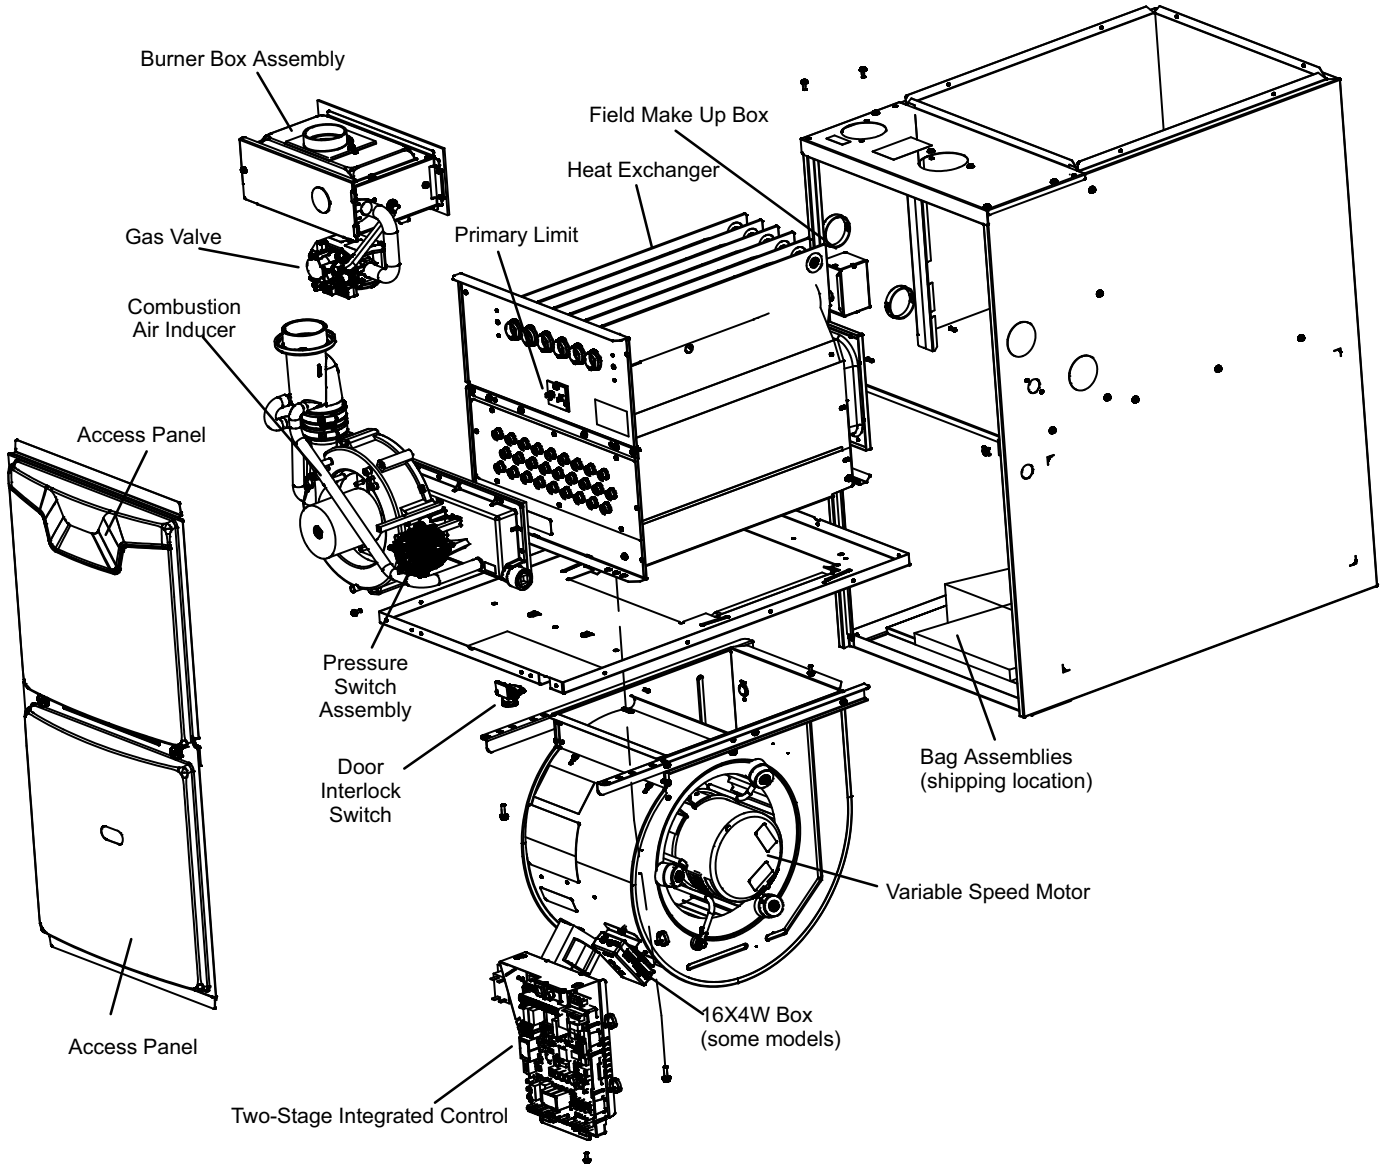
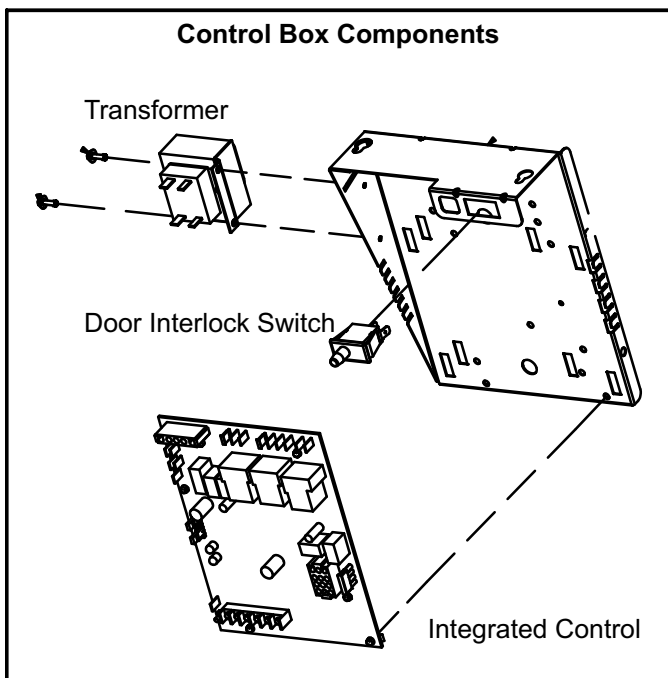

FIGURE 1
FIGURE 2
ML296UHV(X) unit components are shown in figure 1. The gas valve, combustion air inducer and burners can be accessed by removing the access panel. Electrical components are in the control box (figure 2) found in the blower section.